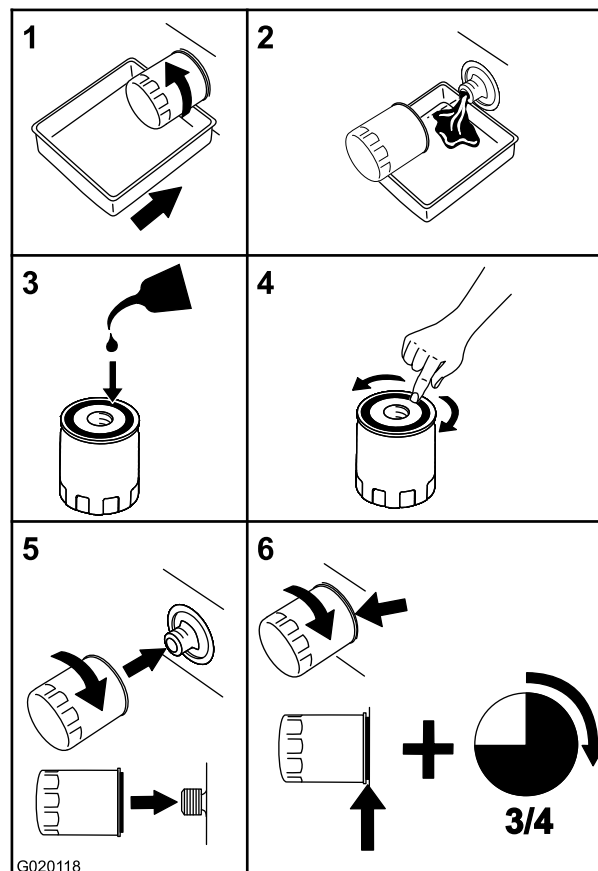

Figure 48
6. Place a container below the filter to catch the oil that drains when the filter and vent plugs are removed (Figure 48).
1. Apply a thin coat of oil on the surface of the rubber seal of each filter (Figure 48).
2. Turn the filter clockwise until rubber seal contacts the filter adapter then tighten the filter an additional 3/4 to 1 full turn (Figure 48).